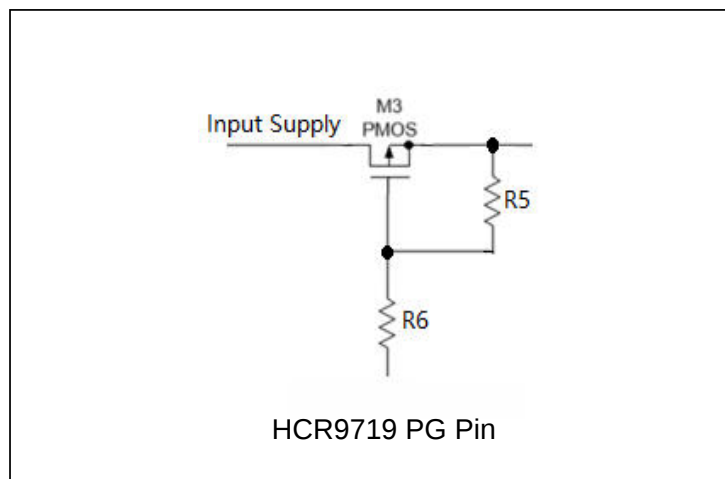

Figure 5. Add R5 and R6 to limit P-channel MOSFET Source-Gate Voltage
in Figure 5 can be used, in which 2 resistors R5 and R6 are used to limit source-gate voltage within the maximum rating. The selection of R5 and R6 should be in such a way that the actual source-gate voltage is less than the P-channel MOSFET's maximum rating, even at input supply's maximum voltage.
- Maximum gate-source voltage The maximum rating of source-gate voltage of the P-channel MOSFET should be no less than input supply voltage. If input supply voltage is higher than the maximum rating of source-gate voltage, the circuit in Figure 5 should be adopted.